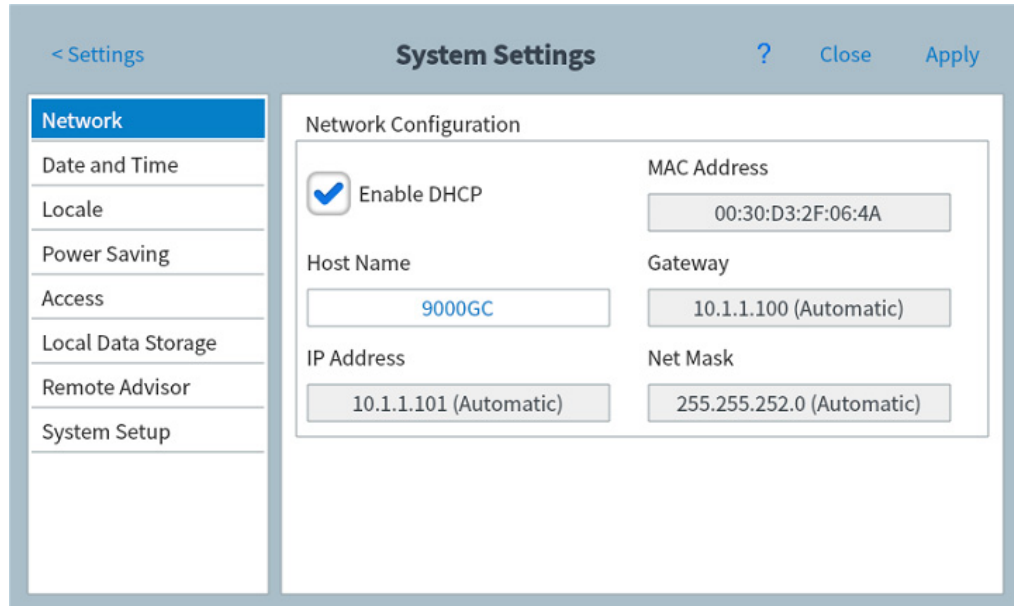

Figure 44 Network Configuration page
- 1 From the System Settings page, press the **Network** page selection button. The Network Configuration page appears. See Figure 44.